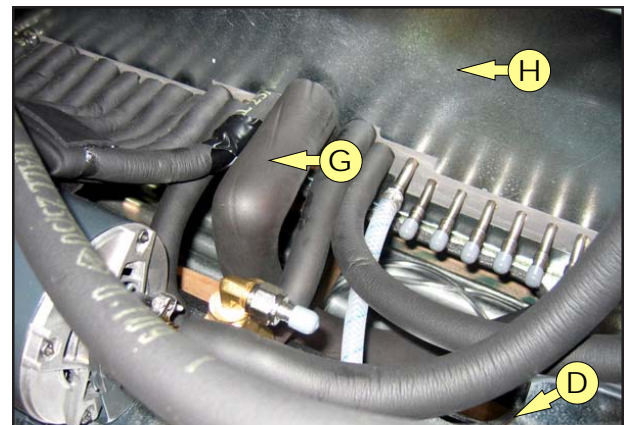

FIGURE 5
2. Route the drain hose through the opening in the LP-3 base plate (D). Follow all local & national plumbing codes.(see figure 5)
3. Pull the insulation (G) on the drain kit over the gray drain elbow and the CPVC drain fitting until it is flush with the stainless steel side panel (H).